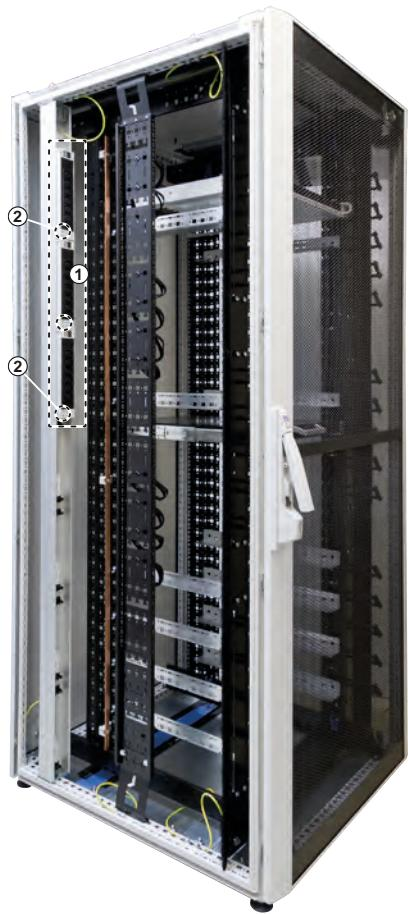

Fig. 6: Power distribution bar ① mounted on the left-hand traverse
- A. Install the power distribution modules to the power distribution bar on the left-hand side of the rack (① in Fig. 6). In doing so, install the first three modules with the red arrow ② facing upwards, and the next three modules (if required) with the black arrow facing upwards.